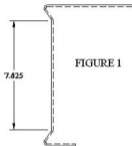

FIGURE 1
1) The speaker assembly is required to be on a flat surface with at least  $7\frac{5}{8}$ " vertical height for the trim bezel ST2022 to bolt through. See FIGURE 1.